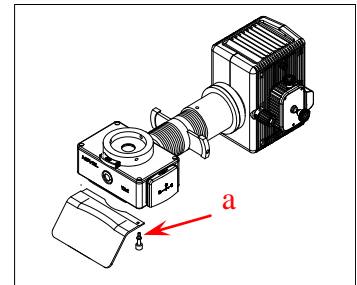

Fig. 4
**2.5 Installation of the UV shield (Fig.4)**